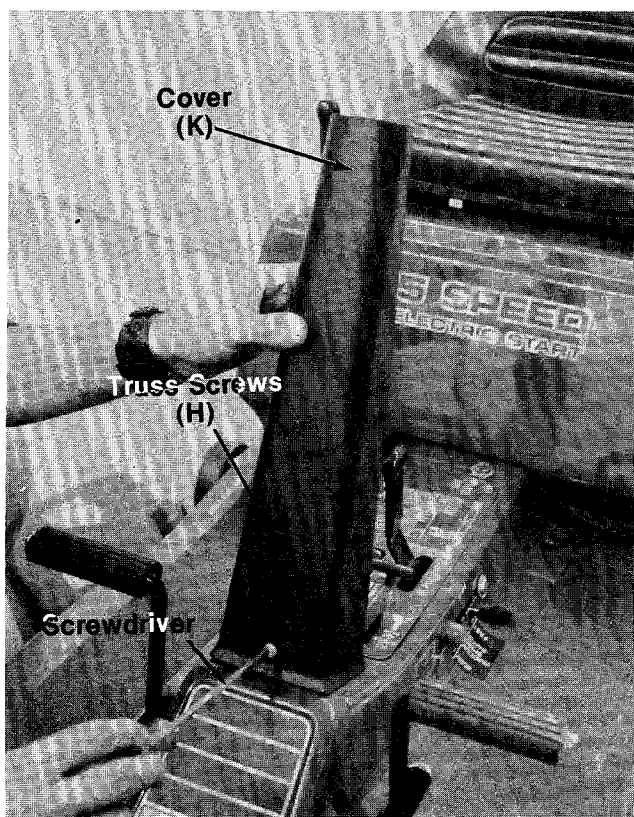

FIGURE 6.
5. Place the cover over the steering tube assembly. Line up holes in cover with speed nuts. See figure 6.
6. Secure cover (K) to support bracket with two hex self-tapping screws (H) provided. See figure 6.